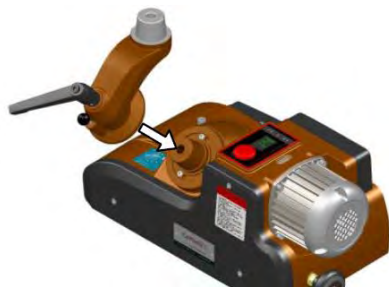

Fig. 22: Mount the joint on the feed unit
Step 7: Mount the joint on the feed unit (Fig. 22).